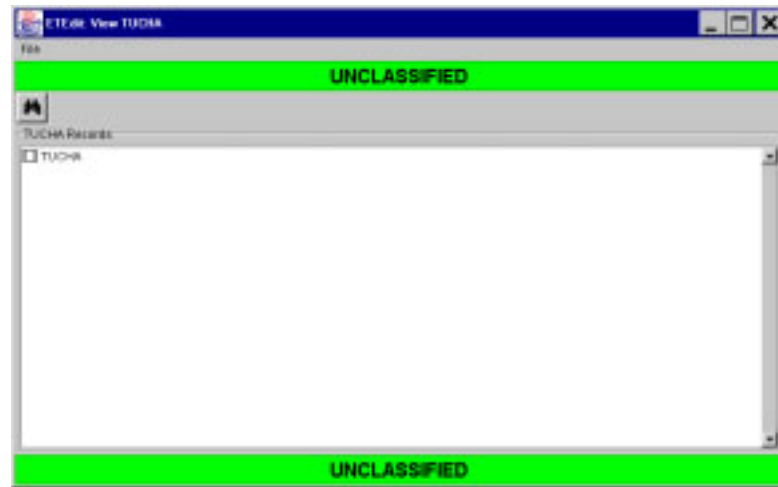

Figure 5.148 ETEdit: View TUCHA Window
2. On the ETEdit (main) window, on the Reference menu, click TUCHA>View TUCHA. The ETEdit: View TUCHA window opens (Figure 5.148).